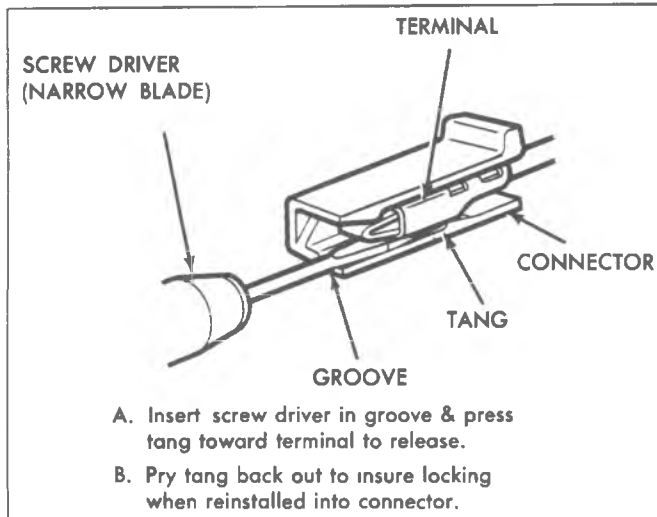

Fig. 97--Terminal Removal
5. Disconnect electrical connector from compressor. Remove the terminal (See Figure 97) and allow connector to hang on ground wire.